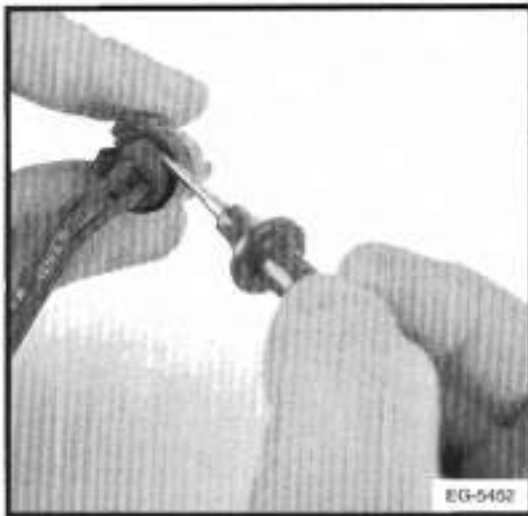

Figure 6-29. - Move The Insulation Back
1. Pry the insulator from the rear of the connector body (Figure 6-29.).